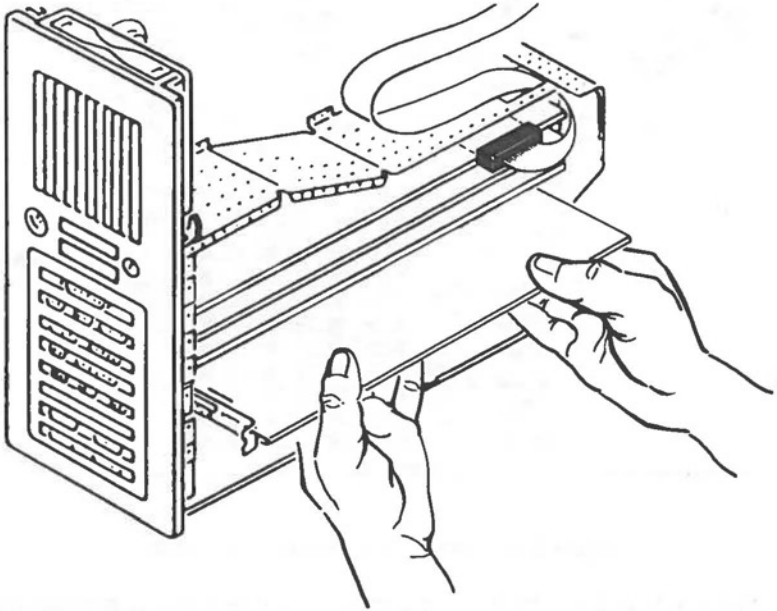

Figure 3-9 Board Removal
5. Rock the board slightly while keeping a constant pulling pressure on it (see Figure 3-9).